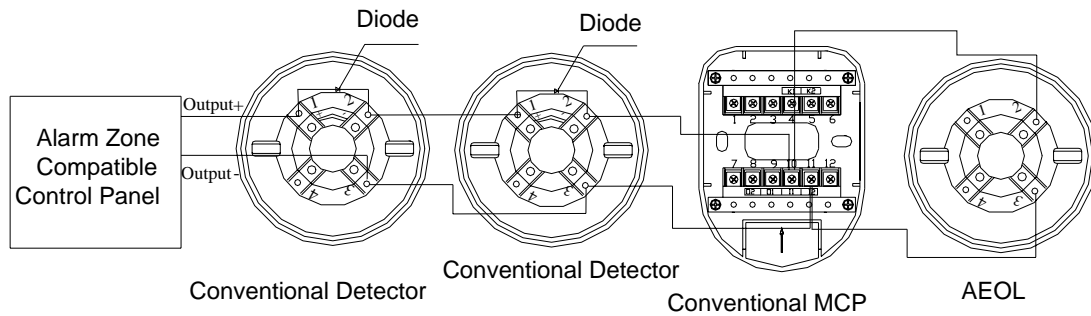

Fig. 6
b) When P-9907 Active End of Line Unit is not used as the detector base, a cover should be added to it. The system composition is shown in Fig. 6.